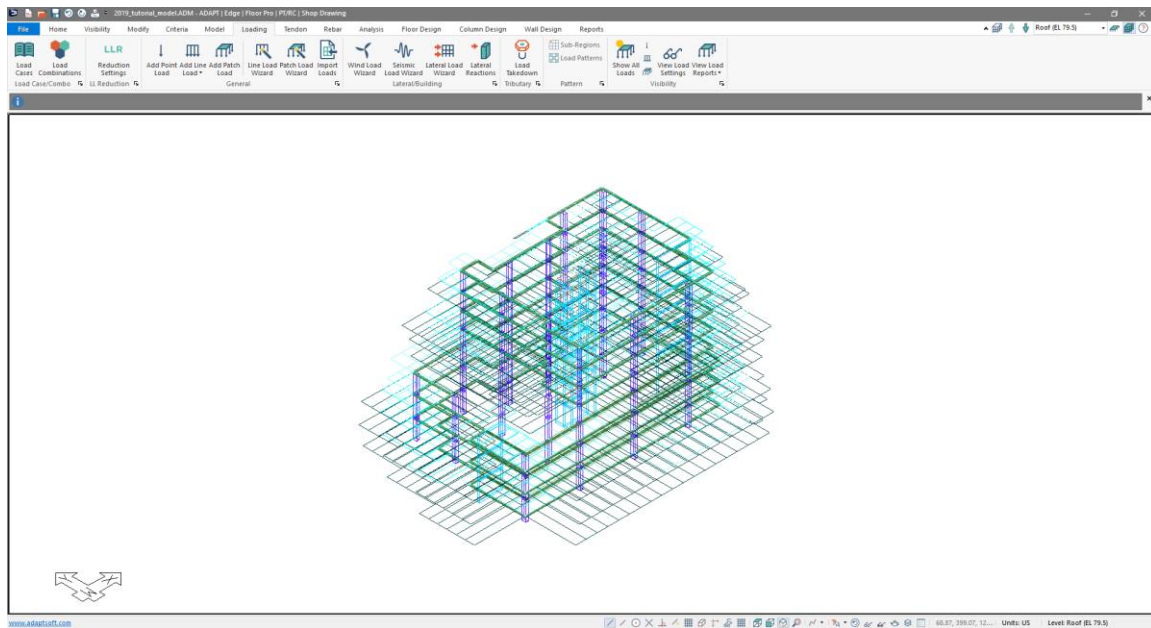

Figure 11-4
- Click **OK** to close the *Select Set/View Item* dialog window. After the dialog window closes the line loads representing the wind load cases will be shown as in **FIGURE 11-4**.